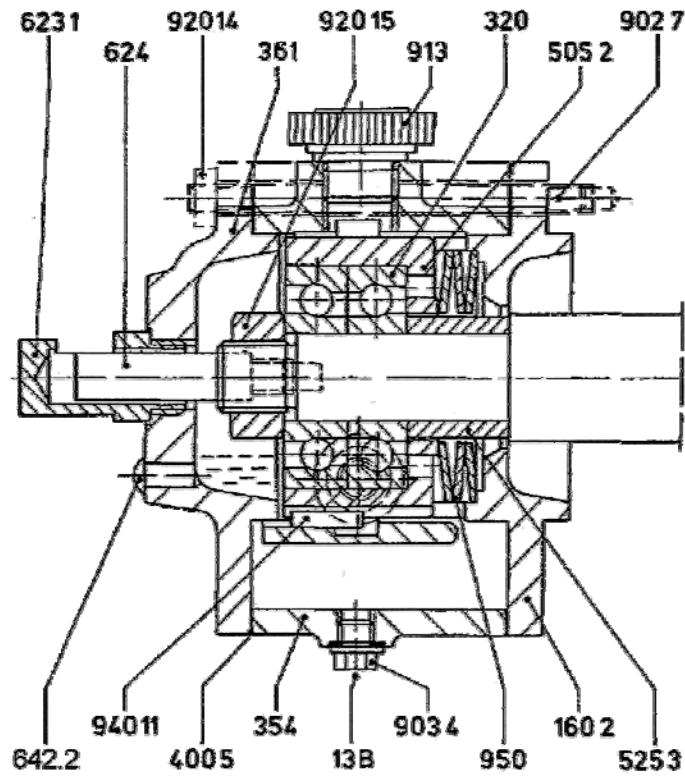

Figure 41A – Lift-off device: anti-friction bearings
6. Mount the rotor position indicator (623.1) plus actuating pin (624) on the discharge end.
7. Check the markings on the rotor position indicator with the balance disc (601) in contact with the balance counter disc (602), if necessary make a new marking (see section 9.1.1 – Rotor position indicator).
8. If the pump is supplied with lift-off device in the bearing casing according to figures 41A, 41B, 42 and 43 and follow sequence of items 5 and 6 above.